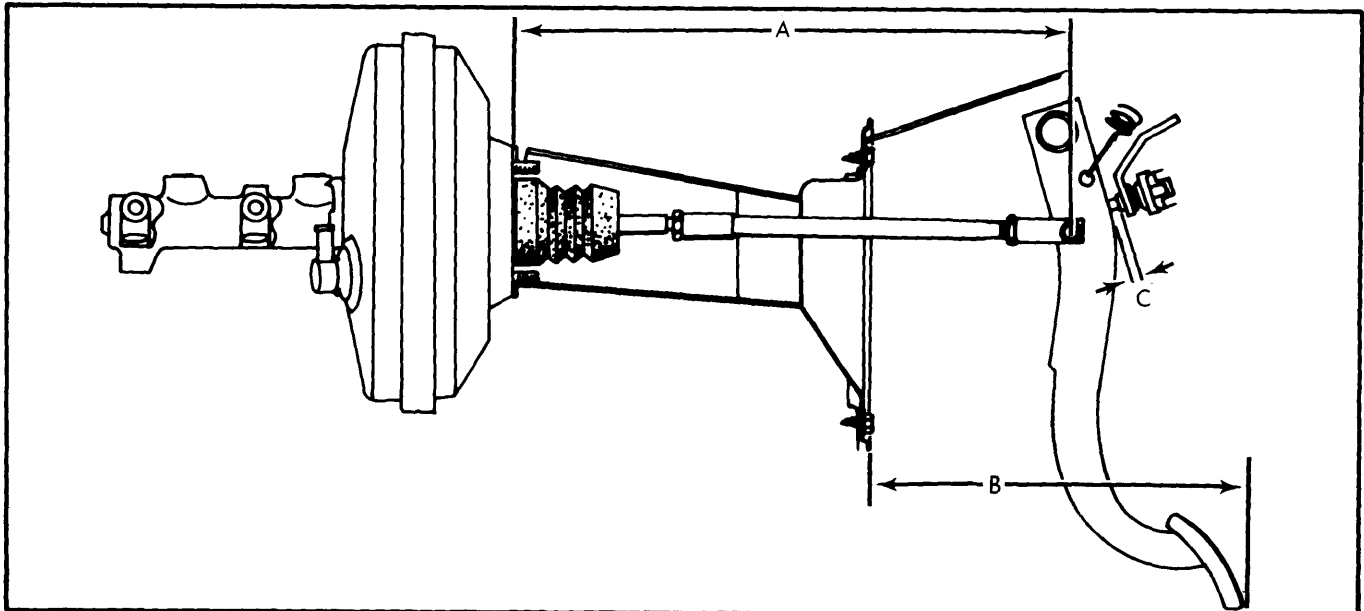

Fig. 3 Power Brake Unit Push Rod Measurement Locations
Installation — To install, reverse removal procedure, bleed hydraulic system and check following adjustments: Adjust push rod (A) length to 14.49-14.53" (368-369 mm). Adjust pedal height (B) to 9.65" (245 mm). Adjust exposed depth of brake light switch plunger (C) to .240-.280" (6-7 mm). See Fig. 3.
Installation — To install, reverse removal procedure, bleed hydraulic system, and check following adjustments: Adjust pedal height (B) to 9.05" (230 mm) for manual transmission models and 8.66" (220 mm) for automatic transmission models. Adjust exposed depth of brake light switch plunger (C) to .200" (5 mm). See Fig. 3.